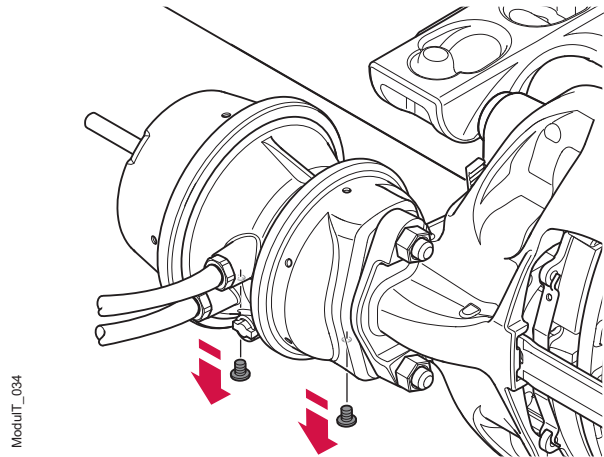

Figure 40. Remove the ventilation drain plug
7. Remove the ventilation drain plug that faces downwards from the brake chamber housing, see figure 40. Also from the spring brake chamber if applicable.